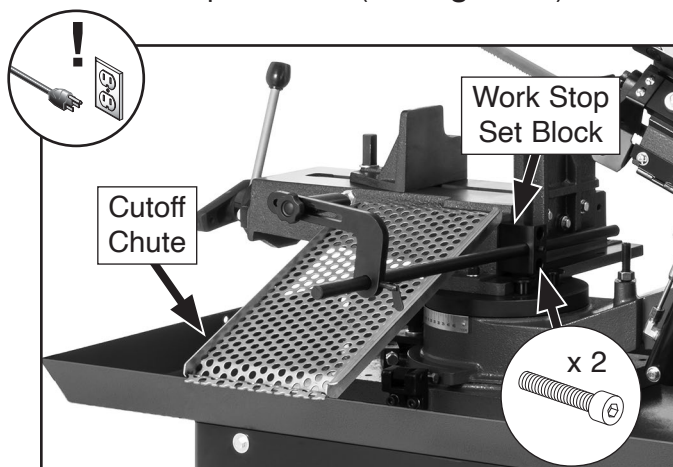

Figure 52. Cutoff chute and work stop removal components.
2. If installed, remove cutoff chute and remove work stop by unscrewing (2) cap screws in work stop set block (see **Figure 52**).